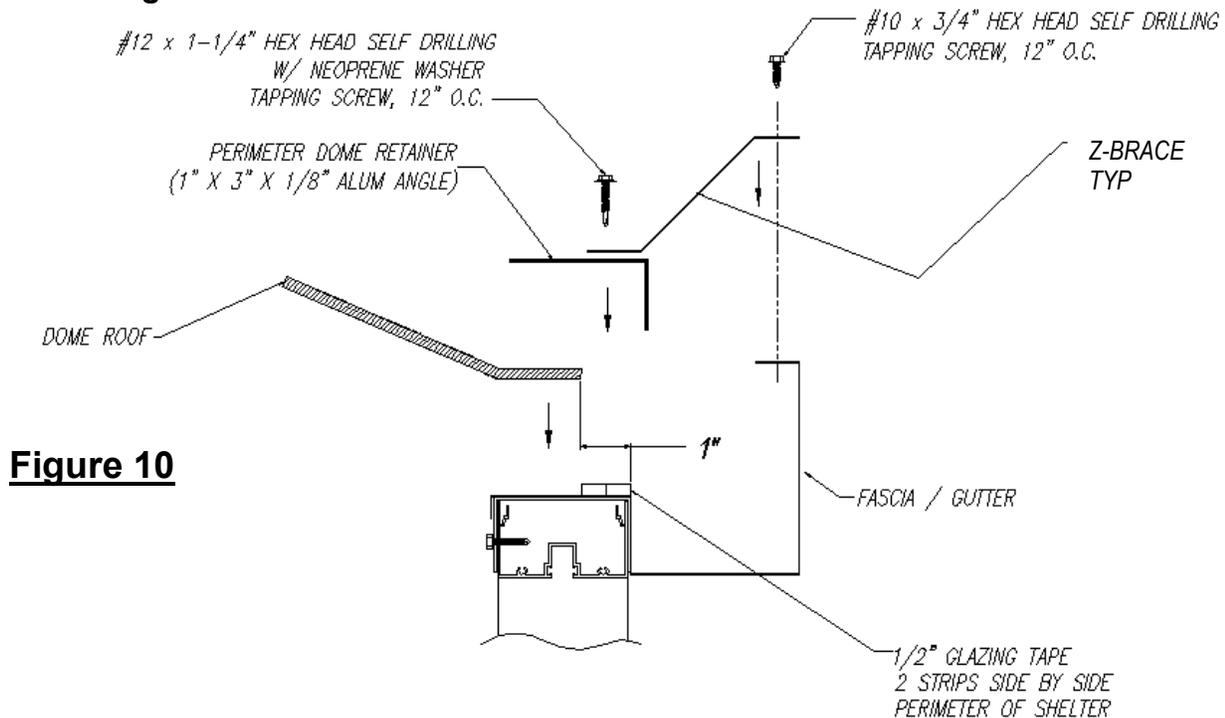

Figure 10
Install the 2 dome roofs. **See Figure 10.**
See Figure 10 and 12.
Place 1 layer of glazing tape (2 strips side by side) in the gap between the perimeter of the shelter and the edge of dome. **See Figure 10.**
See Figure 10.
Fasten the (10) Z braces, (2) on each 7'-6" side and three on each 15' side, spaced equally apart, to the top of the perimeter dome retainer, using (2) #12 x 1-1/4" hex head with neoprene washer self tapping screws. **See Figure 10.**
Fasten the Z braces to the top of fascia/gutter system using (3) #10 x 3/4" hex head self tapping screws. **See Figure 10.**